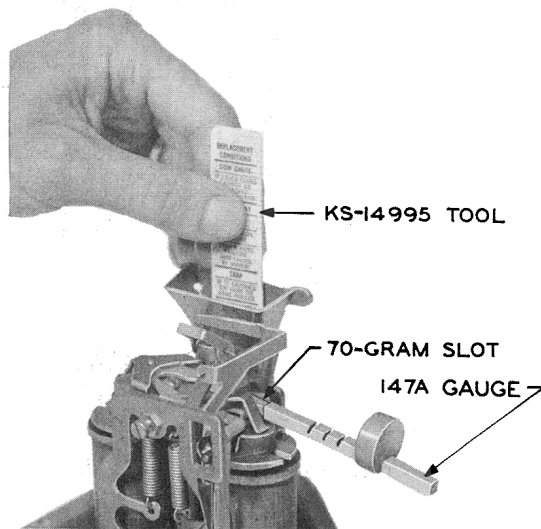

Fig. 7 - Trap and Vane Release Test
- (1) Remove shield from relay.
- (2) Apply slot 70 of 147A gauge to right rear horizontal portion of relay operating arm. Make sure that enclosed end of slot is against edge of operating arm and that weight on gauge is positioned up, as shown in Fig. 7.
- (3) Press down on 147A gauge to operate relay and vane to limits of their travel.
- (4) Insert KS-14995 coin collector tool into throat of hopper to operate trap to the limit of its travel. Hold in place as shown in Fig. 7.
- (5) Release pressure on 147A gauge.
- (6) Slowly withdraw KS-14995 tool. Take at least 5 seconds.
(7) Be sure that vane and relay return to their unoperated positions.
(8) Make test three times with gauge on right (collect) side and three times on left (refund) side.